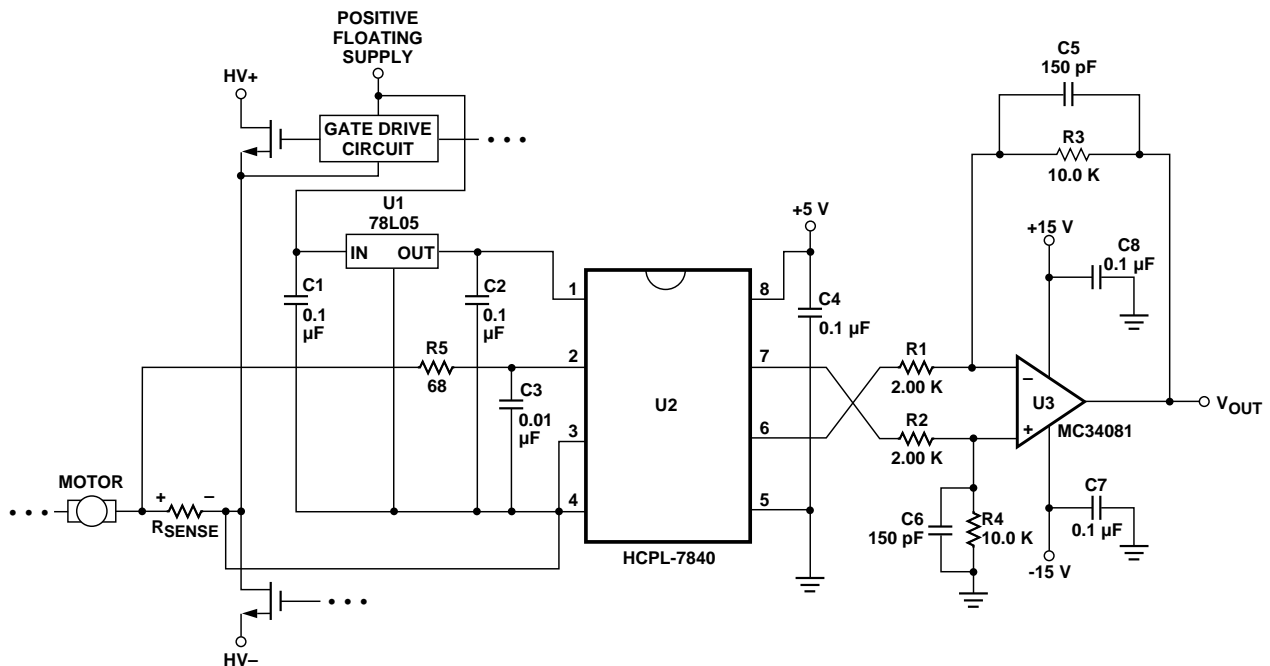

Figure 23. Recommended Application Circuit.
8. CMR (also known as IMR or Isolation Mode Rejection) specifies the minimum rate of rise of a common mode noise signal applied across the isolation boundary at which small output perturbations begin to appear. These output perturbations can occur with both the rising and falling edges of the common mode waveform and may be of either polarity. A CMR failure is defined as a perturbation exceeding 200 mV at the output of the recommended application circuit (Figure 23). See applications section for more information on CMR.
The recommended application circuit is shown in Figure 23. A floating power supply (which in many applications could be the same supply that is used to drive the high-side power transistor) is regulated to 5 V using a simple three-terminal voltage regulator (U1). The voltage from the current sensing resistor, or shunt ( $R_{sense}$ ), is applied to the input of the HCPL-7840 through an RC anti-aliasing filter ( $R5$ ,  $C3$ ). And
As shown in Figure 23, 0.1  $\mu\text{F}$  bypass capacitors ( $C2$ ,  $C4$ ) should be located as close as possible to the input and output power supply pins of the HCPL-7840. The bypass capacitors are
The recommended method for connecting the isolation amplifier to the shunt resistor is shown in Figure 23. Pin 2 ( $V_{IN+}$ ) is connected to the positive terminal of the shunt resistor, while pin 3 ( $V_{IN-}$ ) is shorted to pin 4 (GND1), with the power-supply return path functioning as the sense line to the negative terminal of the current shunt. This allows a single pair of wires or PC board traces to connect the isolation amplifier circuit to the shunt resistor. In some applications, however, supply currents flowing through the power-supply return path may cause offset or noise problems. In this case, better performance may be obtained by connecting pin 3 to the negative terminal of the shunt resistor separate from the power supply return path. When connected this way, both input pins should be bypassed. Whether two or three wires are used, it is recommended that twisted-pair wire or very close PC board traces be used to connect the current shunt to the isolation amplifier circuit to minimize electromagnetic interference to the sense signal.
The recommended application circuit (Figure 23) includes a post-amplifier circuit that serves three functions: to reference the output signal to the desired level (usually ground), to amplify the signal to appropriate levels, and
To maintain overall circuit bandwidth, the post-amplifier circuit should have a bandwidth at least twice the minimum bandwidth of the isolation amplifier, or about 200 kHz. To obtain a bandwidth of 200 kHz with a gain of 5, the op-amp should have a gain-bandwidth greater than 1 MHz. The post-amplifier circuit includes a pair of capacitors (C5 and C6) that form a single-pole low-pass filter. These capacitors allow the bandwidth of the post-amp to be adjusted independently of the gain and are useful for reducing the output noise from the isolation amplifier (doubling the capacitor values halves the circuit bandwidth). The component values shown in Figure 23 form a differential amplifier with a gain of 5 and a cutoff frequency of approximately 100 kHz and were chosen as a compromise